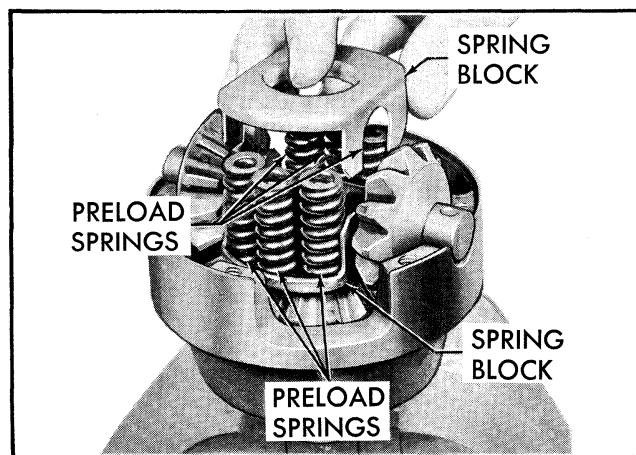

Fig. 4-51 Installing Second Thrust Block
5. Insert springs into spring thrust block that is already installed into case and then place second thrust block over springs. Note offset construction of thrust block tabs. Fig. 4-51.